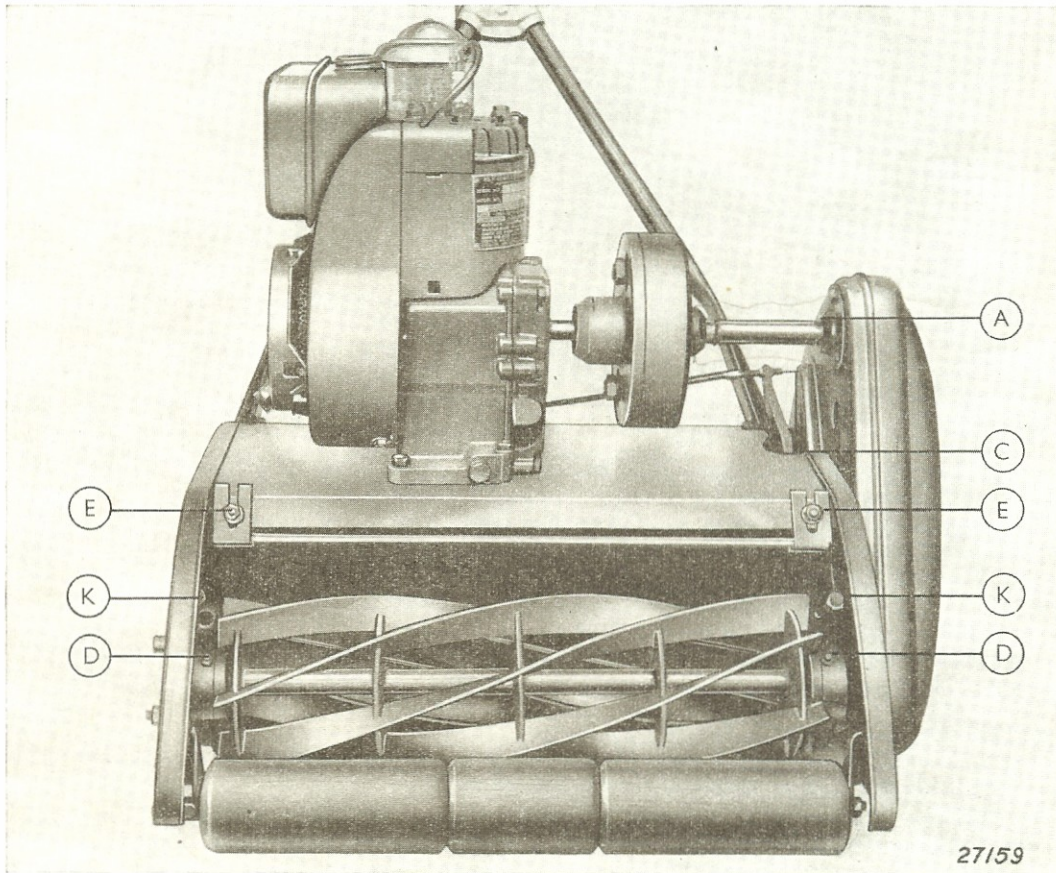
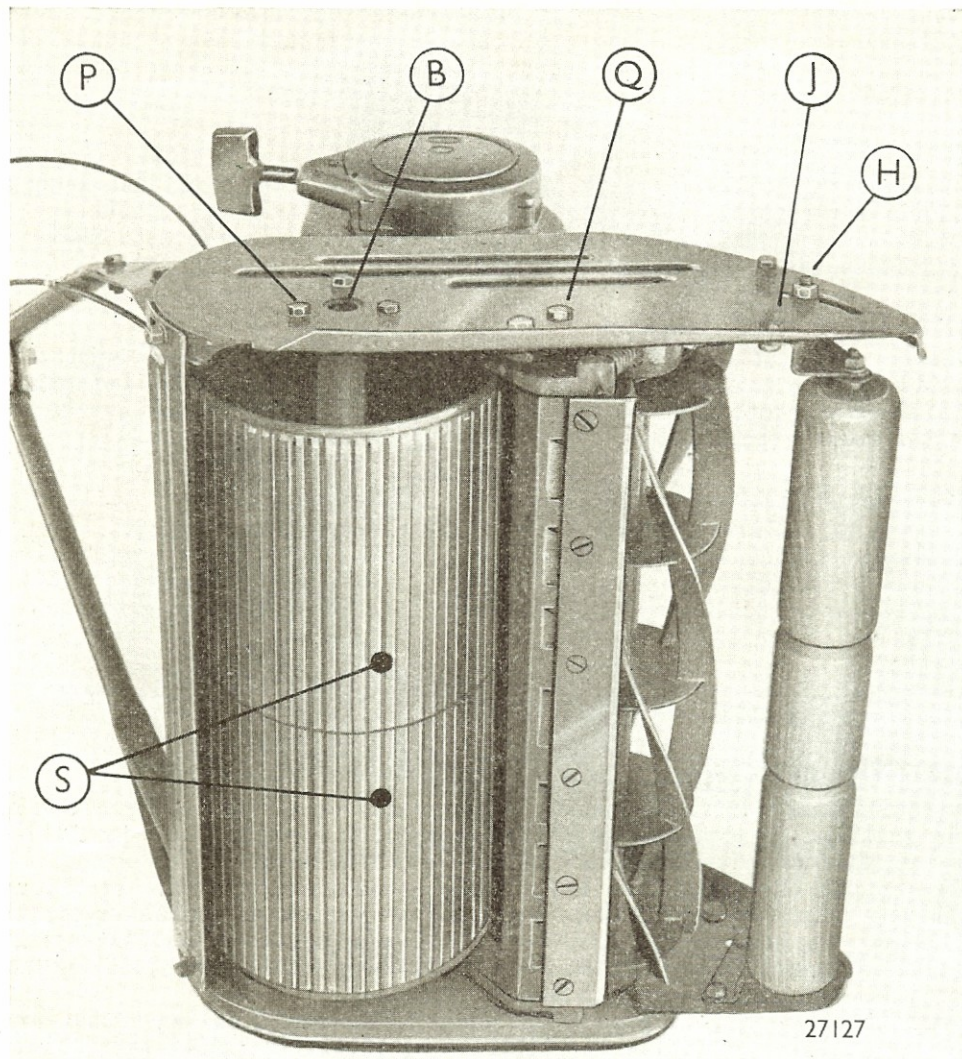

Fig. 3. View of front of Machine.
Fig. 5
1. Clutch shaft bearing through nipple A. (Fig. 3, page 5).
2. Land roll spindle bearings through nipple B in R.H. end of spindle (fig. 5, page 8) and through nipple C in L.H. side of deck plate (fig. 3, page 5) (18-in. machines only). The 20 inch machine has sealed bearings.
3. Land rolls, through nipples S which will be found through surface of each roll (Fig. 5 page 8).
4. Cutting cylinder bearings through nipples D (fig. 3, page 5).
For setting the knives a simple method is used, viz: adjusting screws (K)—see fig. 3—on either side of machine.
When cutting grass under various conditions the user may find that the cuttings tend to be thrown clear of the grass box. To eliminate this the concave should be adjusted. First check that the base of the concave registers correctly with the back edge of the bottom block. Slacken the two self locking nuts on the front edge of the main frame E (fig. 3, page 5) and move the concave forwards until there is approximately $\frac{1}{16}$ inch clearance between the cutting cylinder and the concave on the centre line. In some cases, this may be more easily achieved by reversing the position of the fixing lugs. Re-tighten lock-nuts after adjustment. The grass should now be thrown into the grassbox, striking the back of the box on a line approximately one inch from the top edge.
Now unscrew the chain wheel on the land roll spindle noting that this component has a L.H. thread. To prevent the land roll spindle turning with the chain wheel, engage the special key (LCG 427) in the slot at the opposite end of the spindle. After removing the set screws P (fig. 5, page 8) (three each side of the machine) which secure the land roll spindle bearings, the entire assembly may be dropped out of the main chassis. Assemble in reverse order.
Remove chaincase cover, concave and driving chains. Prevent the cutting cylinder turning by placing a piece of wood in cutters and unscrew the cylinder pinion, noting that this pinion has a L.H. thread. Remove the two screws Q (fig. 5, page 8) from each side of the machine which secure the cutting unit and the entire assembly can be dropped out of the mower.